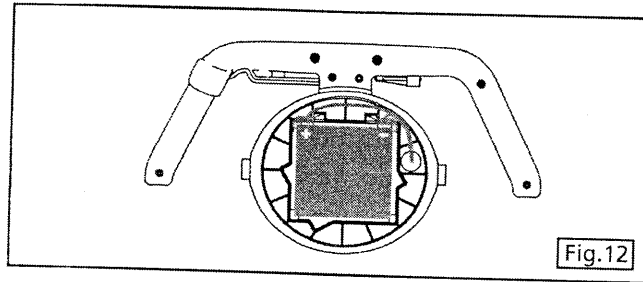

Fig.12
4. Install and connect the charged battery in the correct position - the leads of the battery must be oriented as shown on the sticker on the battery, see fig. 12.